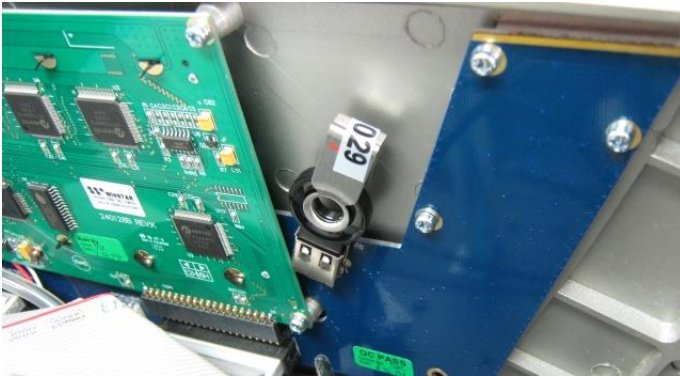

Figure 8 – Installation of USB Memory Key
1. Open the lid and ensure that the USB memory stick is installed (refer to Figure 8).
6. Remove the USB memory stick and pack with instrument (refer to Figure 8).